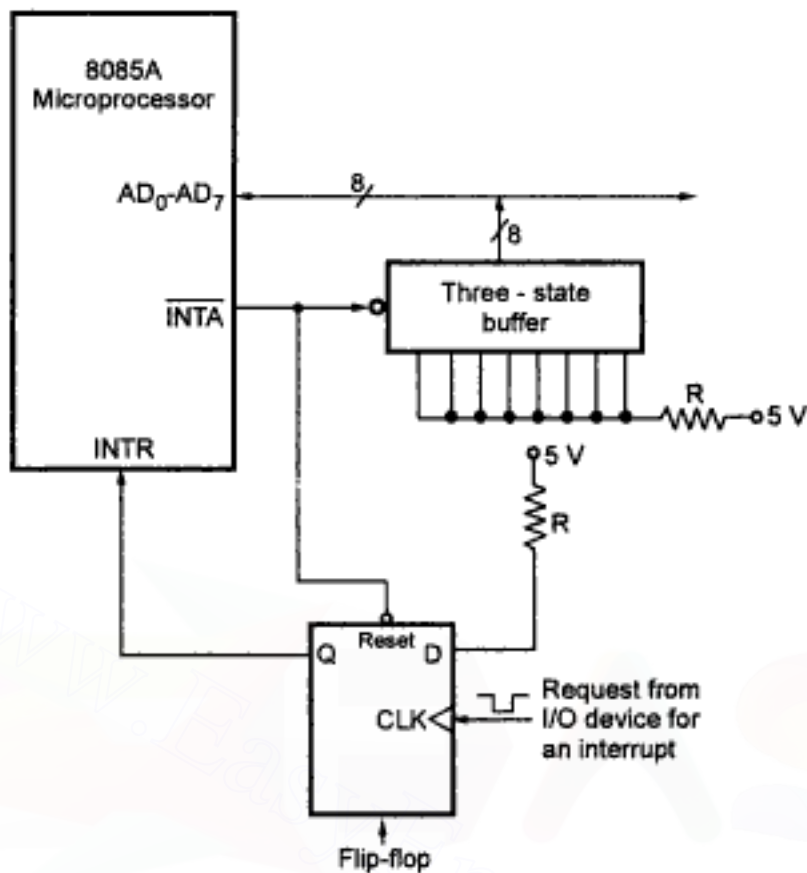

Fig. 2.13 External logic that gives the RST 7 instruction opcode
**Example :** The Fig. 2.13 shows the diagram of external logic that gives the RST 7 instruction opcode on interrupt acknowledge.